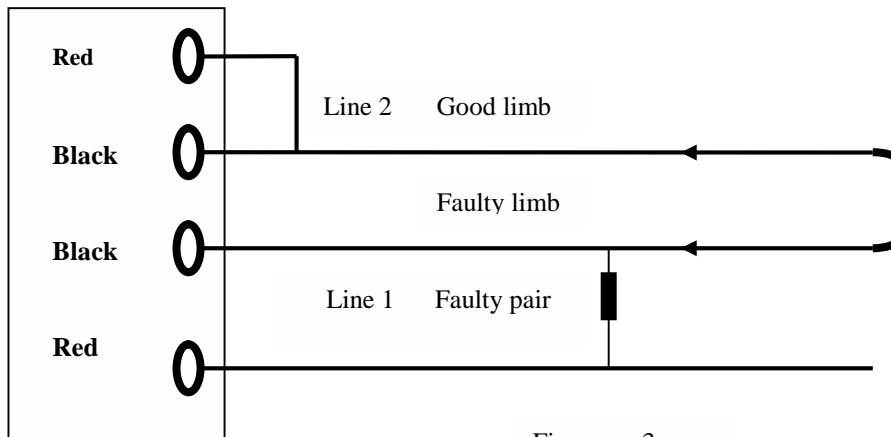

Figure no.3
2. Short red and black terminals of line 2 and connect to good limb (as per the figure no.3 below)